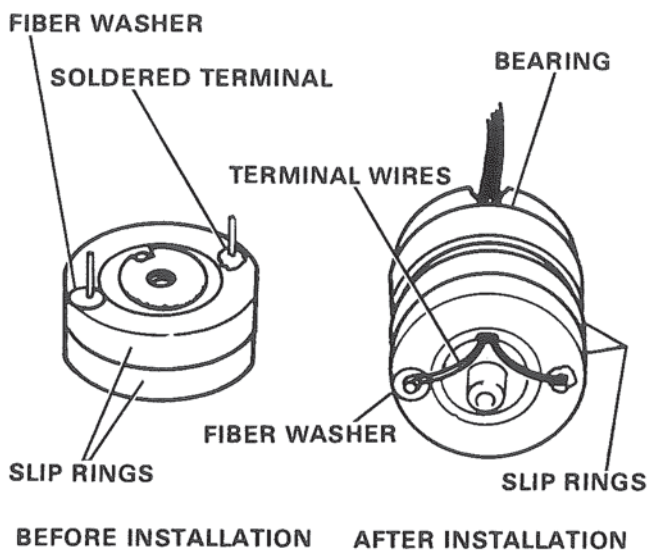

Figure 18. Attaching Rotor Leads to Slip Rings.
A. Place fiber washer on slip ring as shown. Washer prevents short circuits. Figure 18.